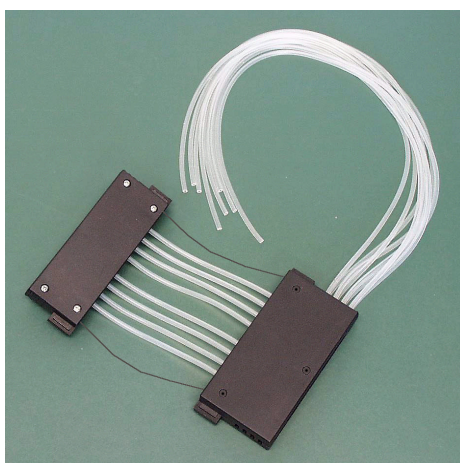

Fig. 7.28 Ensuring the tubing does not get trapped
13. Ensure that you do not get the tubing trapped or bent between the bottom and upper cover of the upper part of the dispensing cassette (Fig. 7.28).